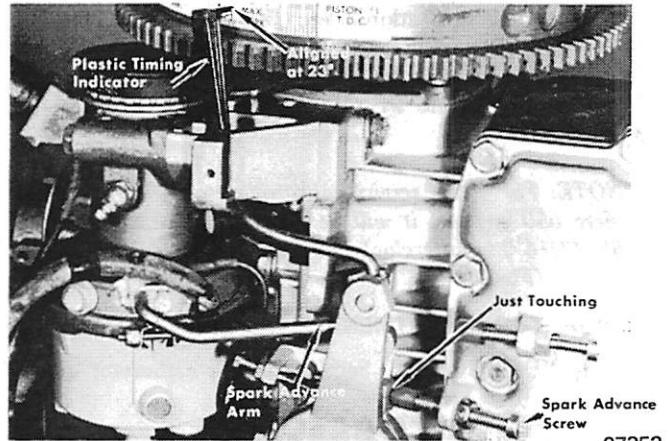

Figure 3. Adjusting Maximum Spark Advance
5. Turn engine over with starter at 400 RPM. Adjust maximum spark advance screw to align the plastic timing indicator with mark on timing decal at 23°. Tighten locknut. (Figure 3)